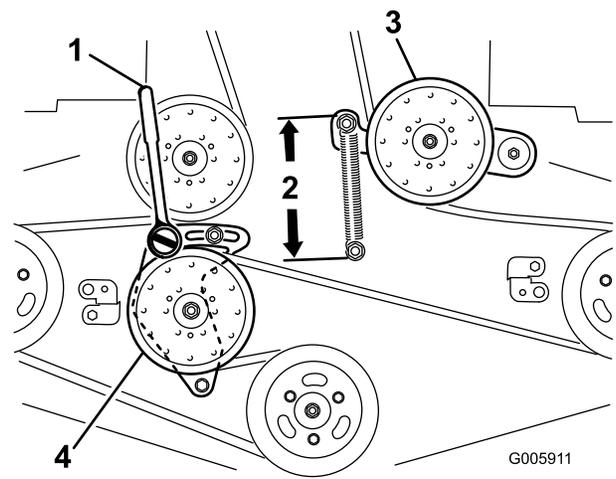

Figure 69
6. Loosen the fixed idler arm and adjust it to relieve belt tension (Figure 69).
9. Insert a ratchet with a short extension or a breaker bar into the square hole in the fixed idler arm (Figure 69).
11. To increase the belt tension, rotate the ratchet or breaker bar counterclockwise to move the fixed idler arm until there is 16.5 cm (6-1/2 inches) between the spring hooks (Figure 69).